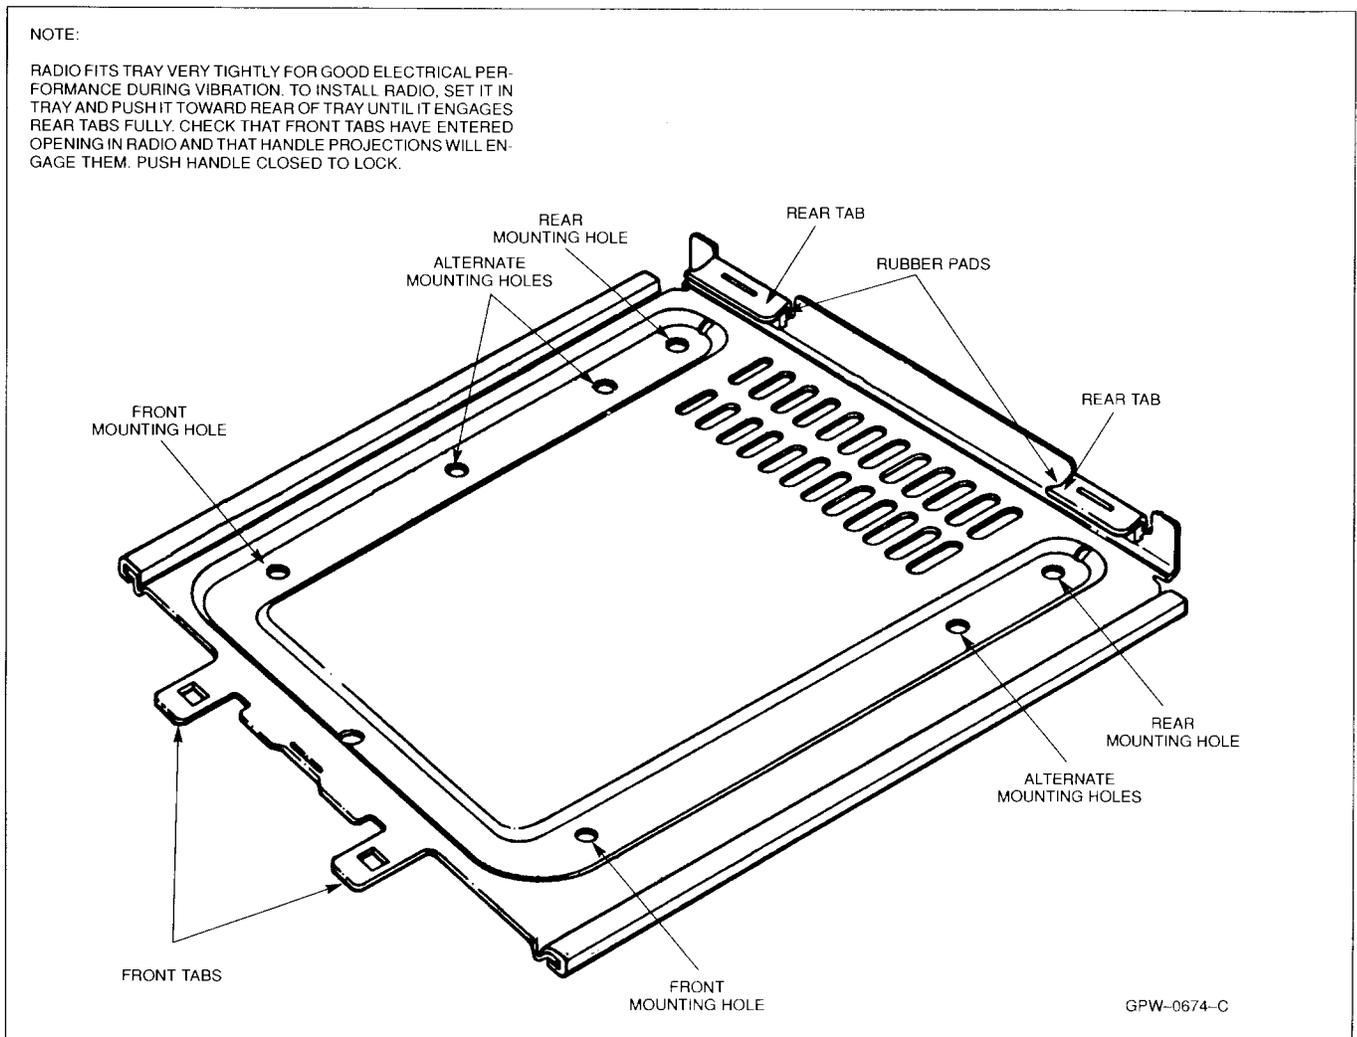
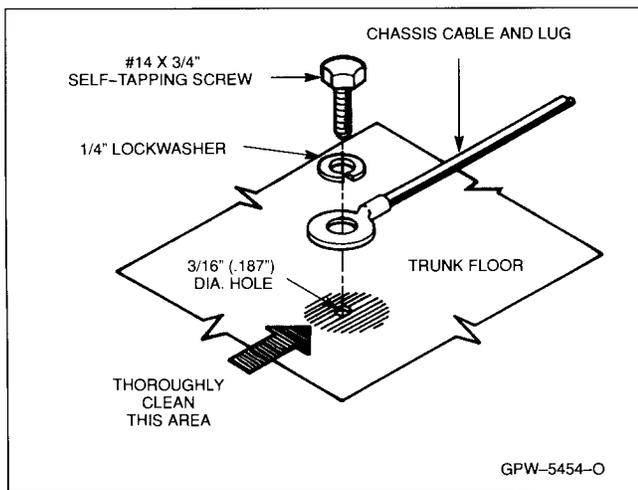

Figure 6. Radio Mounting Tray
Figure 8. Radio Ground Connection
- (1) Choose a location where the mounting screws are not directly above the fuel tank, fuel line, or other vital parts. Permanently install the mounting tray of the radio to a flat surface with a four-point mounting scheme or, if on an uneven surface, with a three-point mounting scheme. (Four-point mounting is strongly recommended over three-point, especially in vehicles subject to extreme vibrations.) The raised shelf in some car trunk compartments makes a good mounting place. Place the radio at one side to allow space for luggage. Leave at least eight inches in front of the radio so that the handle can be opened and the programming cable can be plugged into the radio. Locate the radio so that the black ground lead in the trunk can reach a good chassis ground point in the trunk. Determine the radio's final position, unlock the radio, open the handle and lift the radio assembly away from the mounting tray (pull forward and upward to release the radio assembly). Mount the mounting tray as illustrated in Figures 6 and 7.
- (2) When mounting the radio securely to the trunk floor in some vehicles, the front panel may press against the floor or floor cushioning. Also, some vehicles make it necessary to mount the radio directly over the fuel tank. Always make a preliminary check to see how far the screws will extend below the trunk floor. Do not puncture the fuel tank. If either condition exists, insert one of the thick spacer washers between the bottom of the mounting tray and the floor at each of the four mounting holes. The washers help to keep the radio level, especially when the floor is covered with a "spongy" mat such as soft rubber. Replace the radio assembly by sliding the radio onto the tray at about the halfway point. Push straight back until the tray tabs enter the two window areas on the radio front and engage the handle tabs. Close by pushing the handle until it locks. The handle locks the radio to the mounting tray and conceals the top cover release button. Push the multi-conductor plug onto the male connector and rotate the thumbscrew clockwise to fully seat the connector. Reverse the procedure for removing the radio.
- (3) Thoroughly clean the trunk floor surface before proceeding. Connect the black ground cable lug to a convenient location on the trunk floor. Center punch and drill a 3/16" (.187") hole through the mounting surface. Use a #14 x 3/4" self-tapping screw and the supplied 1/4" lock-washer to mount the cable lug. See Figure 8.